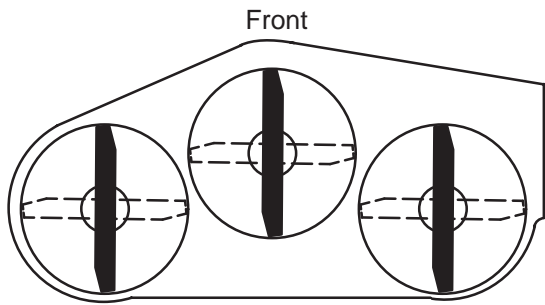

Figure 26
2. Rotate the blades until the ends face forward and backward (Fig. 26). Measure from a level surface to the cutting edge of the blades (Fig. 27). Note this dimension.